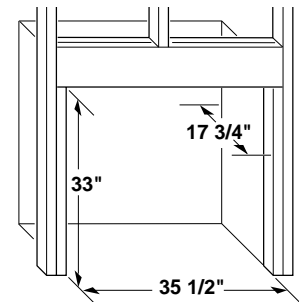
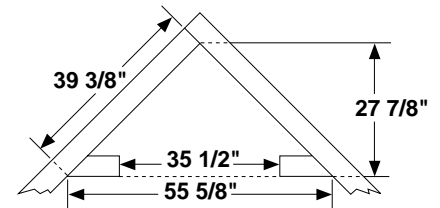

Figure 33 - Rough Opening for Installing in Wall
Figure 34 - Rough Opening for Installing in Corner
1. Frame in rough opening. Use dimensions shown in Figure 33 for the rough opening. If installing in a corner, use dimensions shown in Figure 34 for the rough opening. The height is 33" which is the same as the wall opening above.